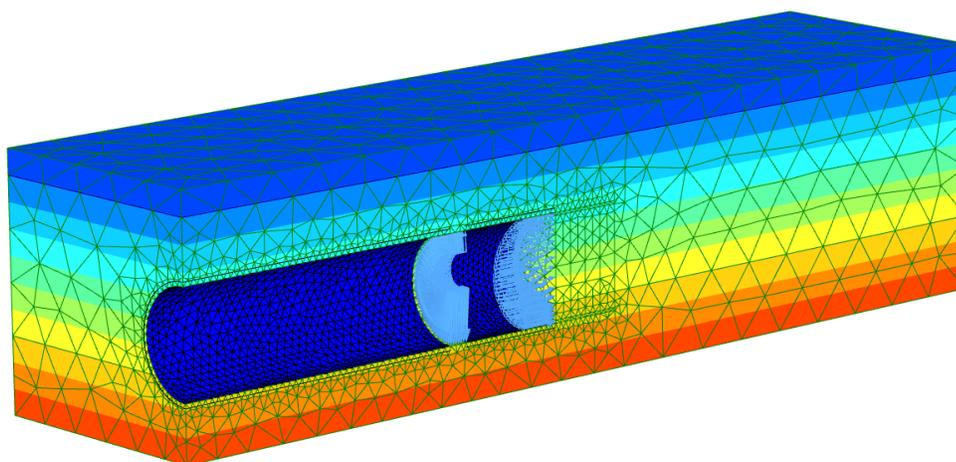

Figure 91: Preview of the Phase 1
7.  Click the **Preview** button to get a preview of everything that has been defined (Figure 91: Preview of the Phase 1 (on page 110)). Make sure that both grout pressure and tunnel face pressure are applied and that both increase from top to bottom.